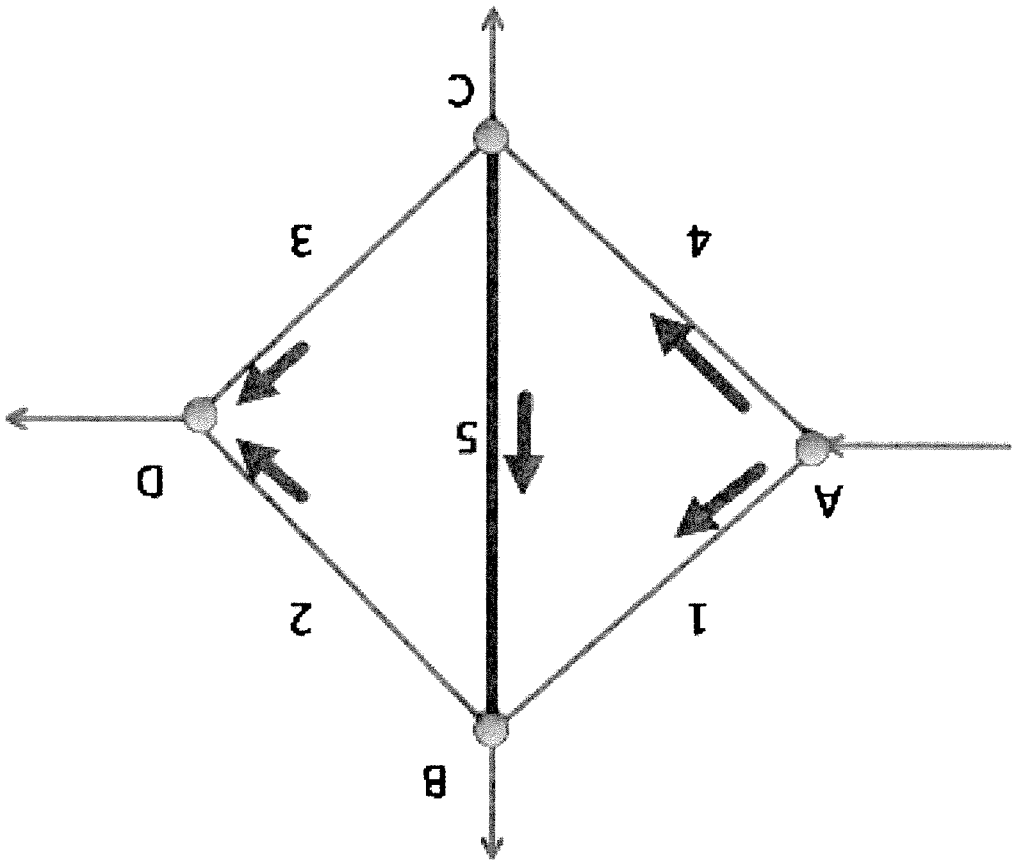

Figure 4: Pipe network
Figure 4 is a pipe network with the following properties:
Table 1: Network properties for Figure 4
5. Referring to Figure 4, the discharge in pipe 5 is closest to
6. Referring to Figure 4, if the demands at all nodes are those in Table 1, and pipe 2 is decreased to a diameter of 2/12, the discharge in pipe 5 is closest to
7. Referring to Figure 4, assuming the average friction factor is 0.018, the head loss, in feet, from Node A to Node C (when all pipes are the same diameter) is closest to
8. Referring to Figure 4, and Table 1 the flow distribution is: